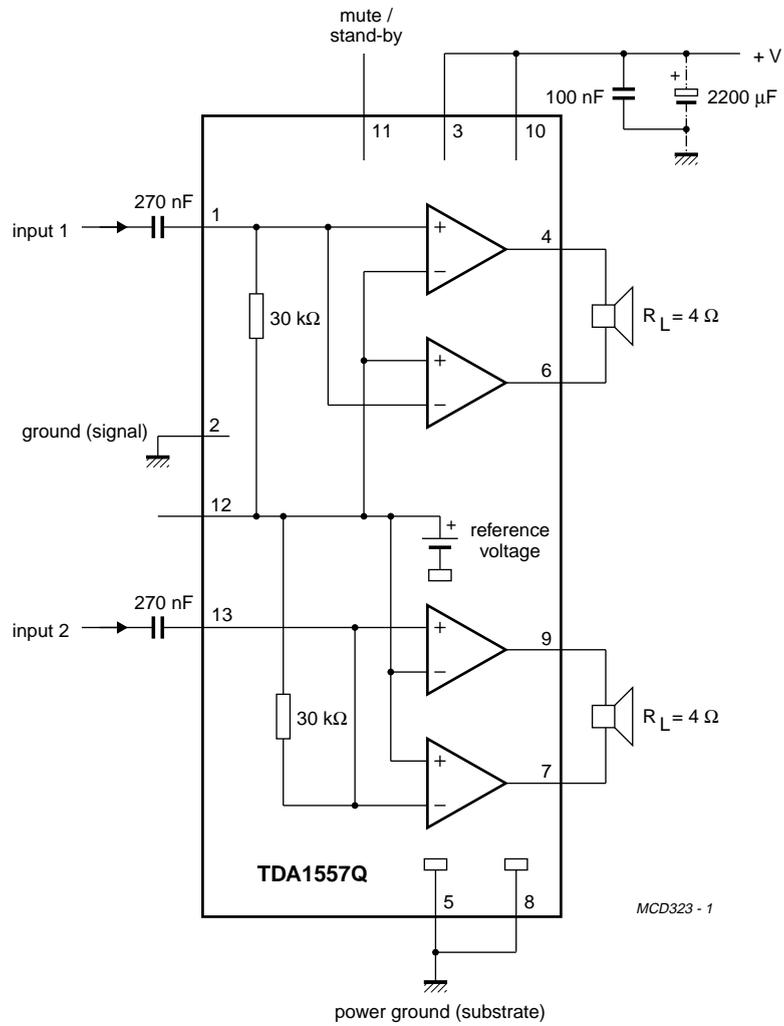

Fig.4 Stereo BTL application.
- All characteristics are measured using the circuit shown in Fig.4